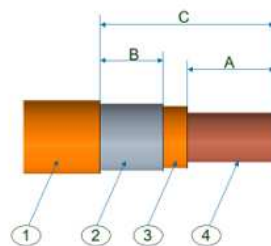

Figure 3: cutting cable to length
Step 2/步骤二 Strip and remove outer sheath, screening braid (if present screening foil), inner sheath and conductor from the end as shown in figure 3.
如图3所示，切开并去除外绝缘皮，屏蔽编织物（如果存在屏蔽箔），内绝缘皮和导体。